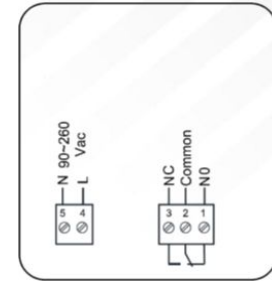

Fig 12
- Connect the “Green - Common” cable from the interface lead to the “C” common terminal at the CO2 sensor, connect the “Black - ON and the Red - Low fan Speed” to the N/O (1) terminal at the CO2 sensor, (fig 12/13).